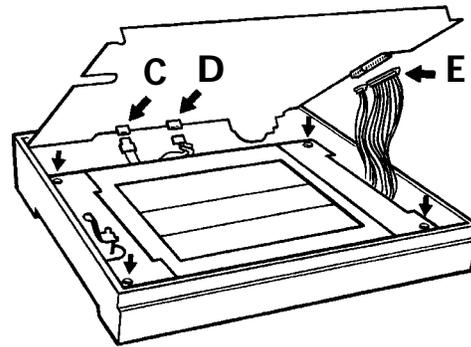

Figure C2.2b Inner cover removal
- Carefully remove the door inner cover, by lifting the cover and disconnecting the various connectors as they become accessible (C, D and E in figure C2.2b).
- Remove the four display unit securing screws arrowed in figure C2.2b